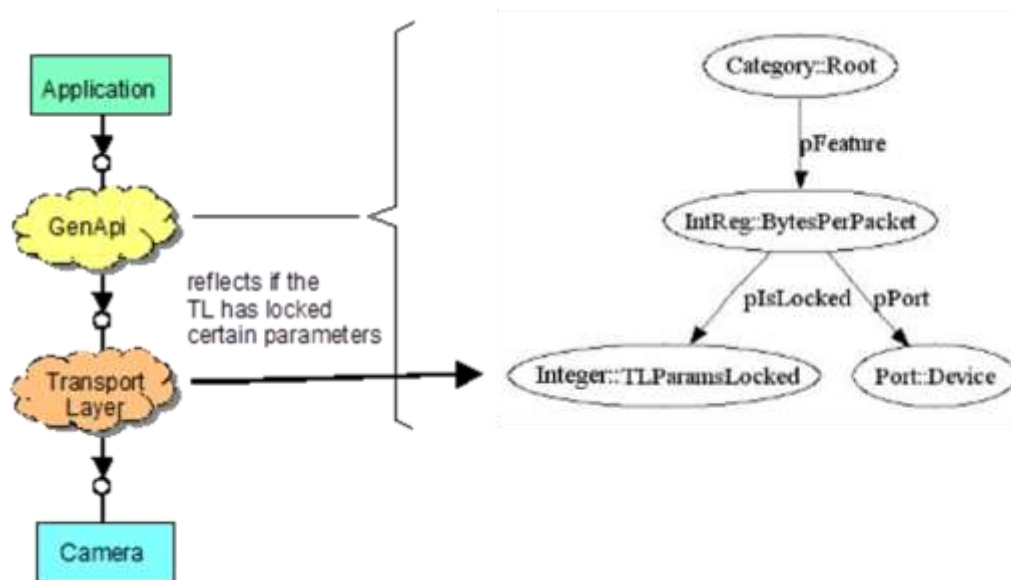

Figure 6 Locking a feature
The solution within GenApi is to provide a floating *Integer* node *TLParamsLocked* (see Figure 6). The *BytesPerPacket* links to this node with a *pIsLocked* link. The transport layer (TL) needs to reflect its DMA status by updating the value of the *TLParamsLocked* node. Before it sets up the DMA, it locks the respective camera parameters (e.g., *BytesPerPacket*) by setting *TLParamsLocked* to 1, and after the grab has been finished, it sets *TLParamsLocked* 0 again. Changing the *TLParamsLocked* node will in turn update the lock status of all dependent nodes, for example, the *BytesPerPacket* node.